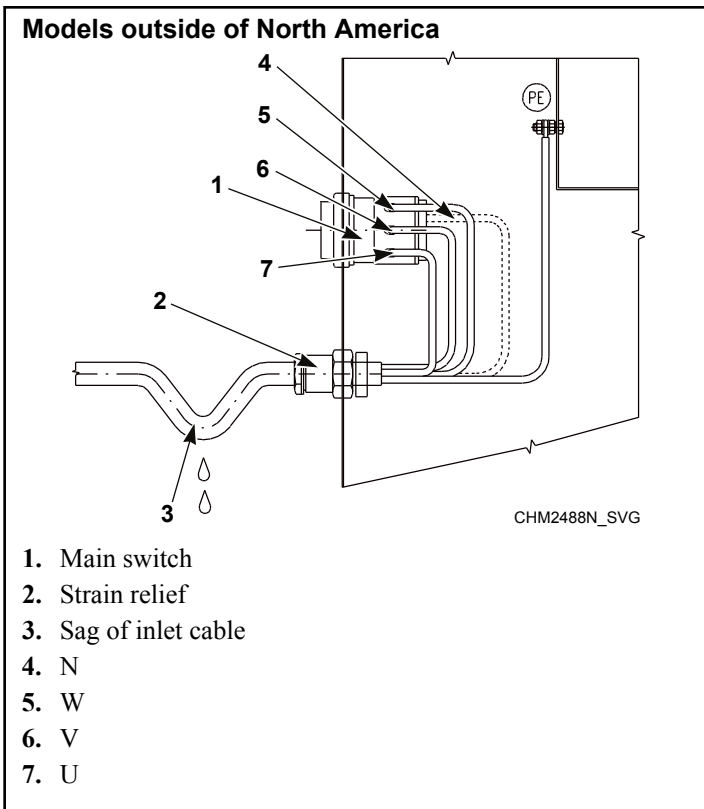
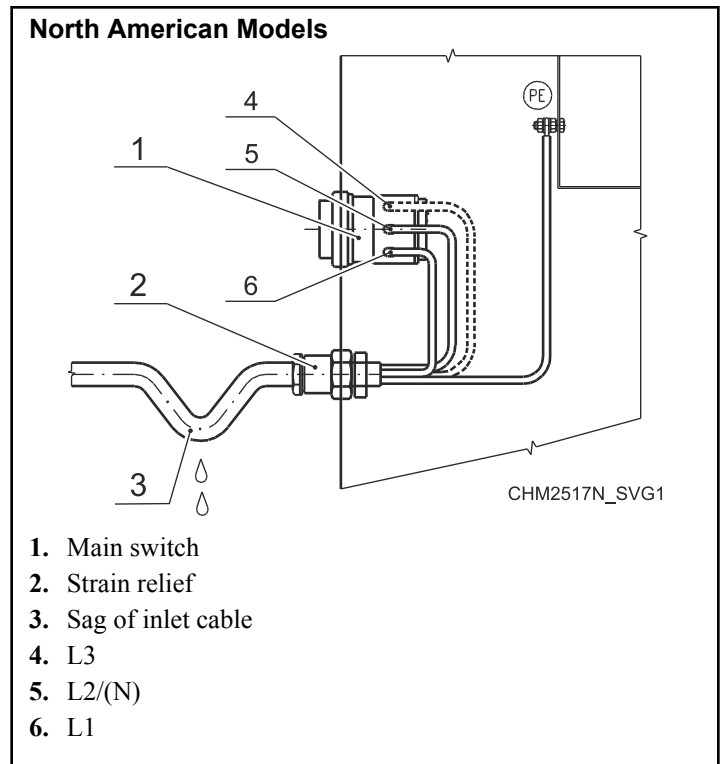

Figure 25
Figure 26
3. With stranded conductors, use wire end tubes with an insulated sleeve (6) for L1/U, (L2/V), (L3/W), (N) conductors. Make sure there is no accidental contact, since the supply cable stays under voltage even when the main switch is off.
5. Connect the supply cable conductors to the incoming terminals (main switch [1]), marked with L1/U, (L2/V), (L3/W), (N) and the terminal marked with PE. Refer to *Figure 25* or *Figure 26*.
6. Provide a sag in the cable, in front of the strain relief. This will prevent condensed water from dripping into the machine. Refer to *Figure 25* or *Figure 26*.